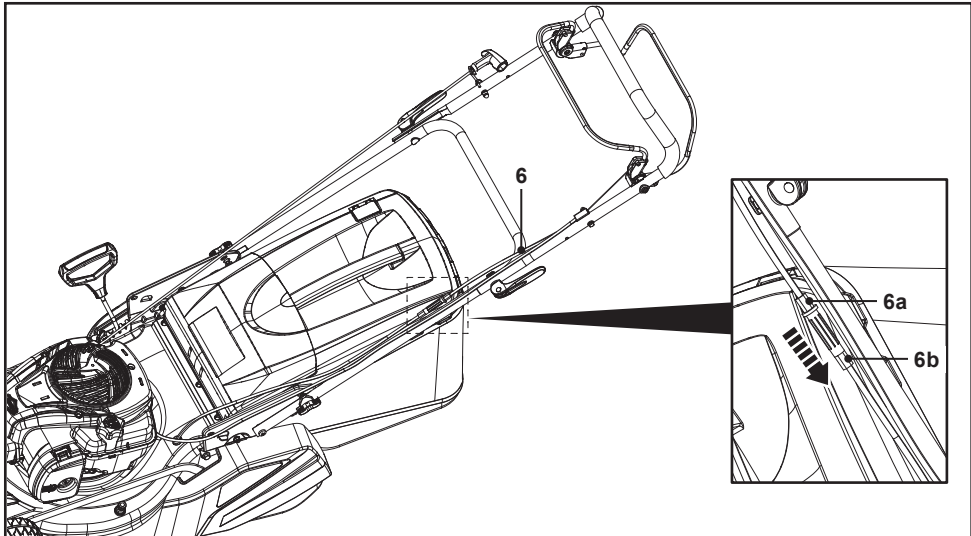

Fig. 31
If the rear roller (31) do not rotate when operating the self-propelling lever (2), it may be necessary to adjust the self-propelling wire (6) (Fig. 31).